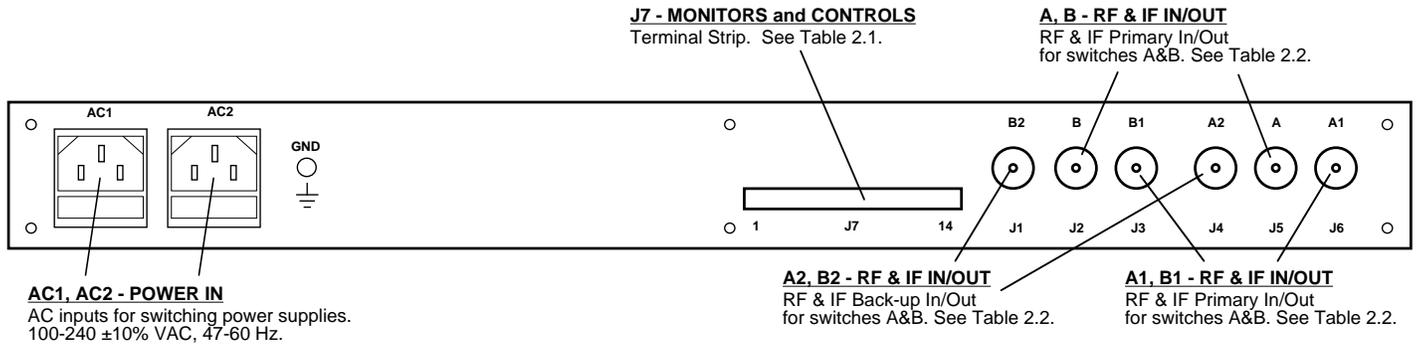

FIGURE 2.2 1582-22L RF Switch Rear Panel Inputs/Outputs
2.2 Input and Output Signals - Figure 2.2 shows the input and output connectors on the rear panel.
4. Connect to signals on the MONITORS AND CONTROLS connector, J7, as desired (see Figure 2.2, Table 2.1).